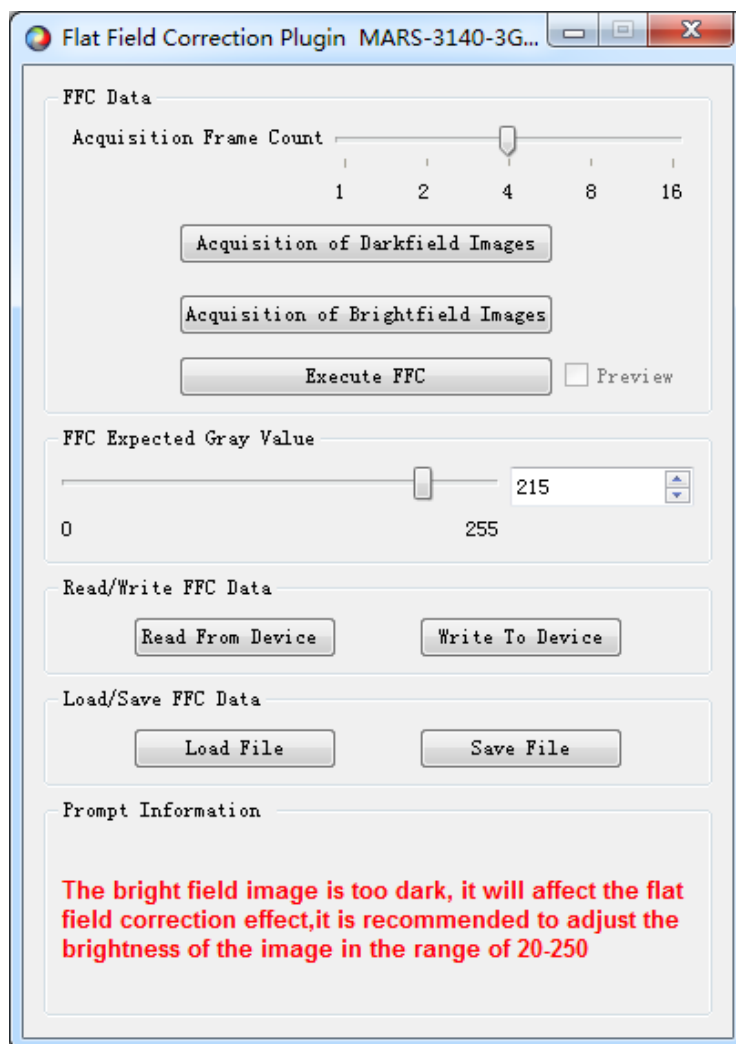

Figure 9-16 The brightfield image is too dark
- 4) If the brightness of the acquired brightfield image is less than 20, the prompt box will prompt that the acquired brightfield image will affect the effect of flat field correction, as shown in Figure 9-16. In this